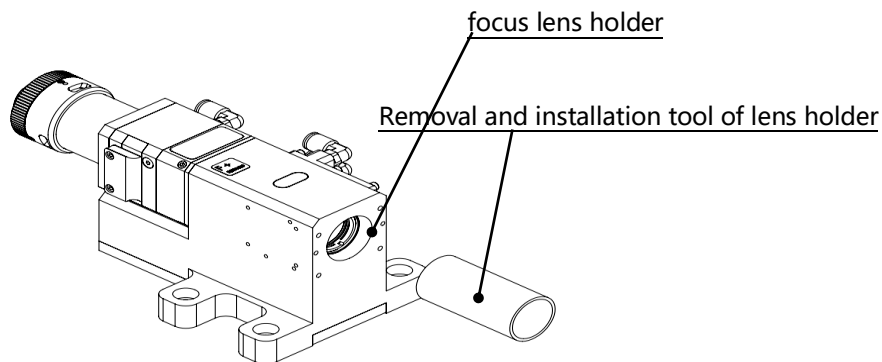

Figure 6.8 - Removal and installation tool of focus lens holder
- As shown in figure 6.8, use a lens-taking tool to remove the focus lens holder;